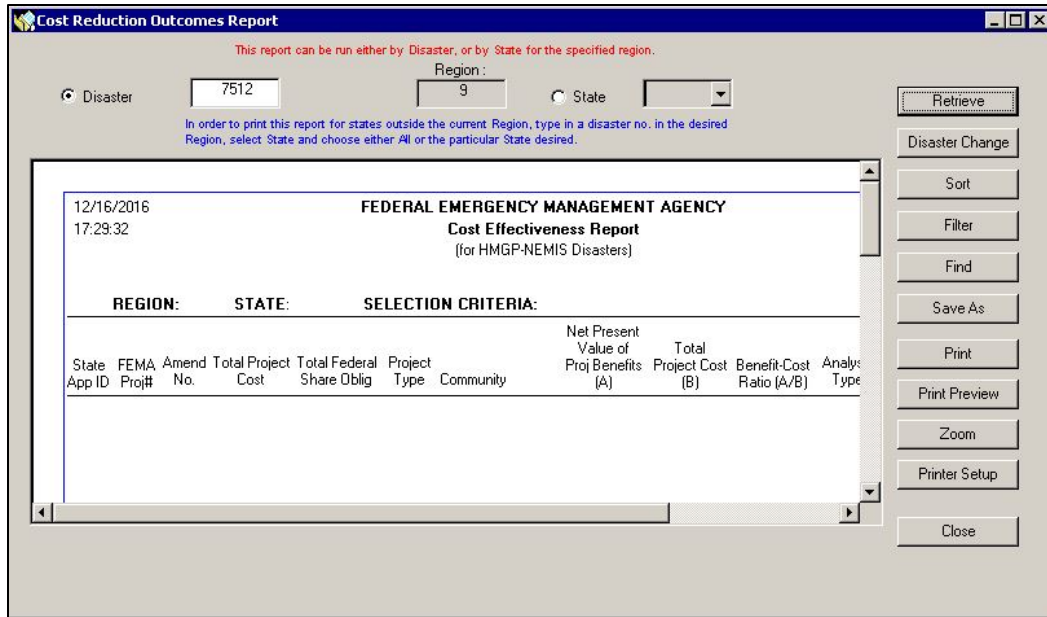

Figure 14-16: Blank Benefit Cost Report
- b. The blank Benefit Cost Report is displayed (Figure 14-16).